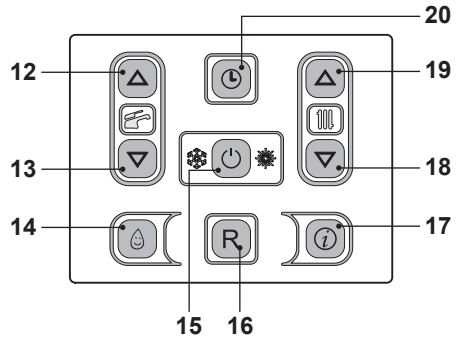
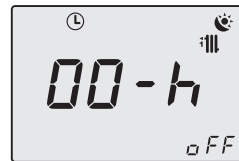
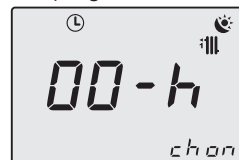
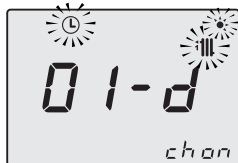

Fig. 2.18
Fig. 2.19
Fig. 2.20
Fig. 2.21
Press keys 18 and 19 (Fig. 2.18) at the same time for 2 seconds to enter programme menu (Fig. 2.19).
Press key 15 (Fig. 2.18) to modify the function status: (15 scrolls through Menu **oFF**, **ch on**, **ch oF**) Fig. 2.20.
Press keys 12 or 13 (Fig. 2.18) to programme the forced heating function Minimum 1 hour to Maximum 30 days (The above example has been set for **ch on** for 1 day) (Fig. 2.21).
To exit programming without making any changes press keys 18 and 19 (Fig. 2.18) at same time for 2 seconds.
Hold down keys 18 and 19 (Fig. 2.18) at the same time for 2 seconds until the remaining time and status of the programme appears on the LCD display.
Press key 15 (Fig. 2.18) to modify the status to "oFF".
To exit programming without making any changes press key 18 and 19 (Fig. 2.18) at the same time for 2 seconds or wait 60 seconds.
The temperature of the D.H.W. can be adjusted by pressing keys 12 (increase) and 13 (reduce) (Fig. 2.18) from a minimum of about 35°C to a maximum of about 60°C. Press one of the two keys once to display the "set" value. Press again to access the modification.